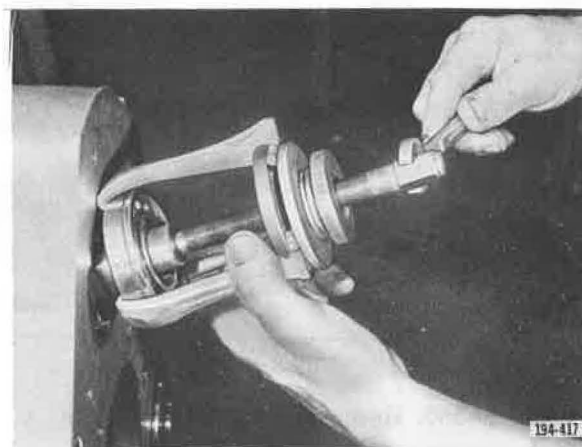

Figure 5-584. Removing Countershaft Rear Bearing
7. Slide the three rear countershafts rearward and partially through rear bearing opening. Remove bearing retaining snap ring. Install puller on countershaft rear bearings and remove. See Figure 5-584. Then remove the three rear countershaft assemblies from case.